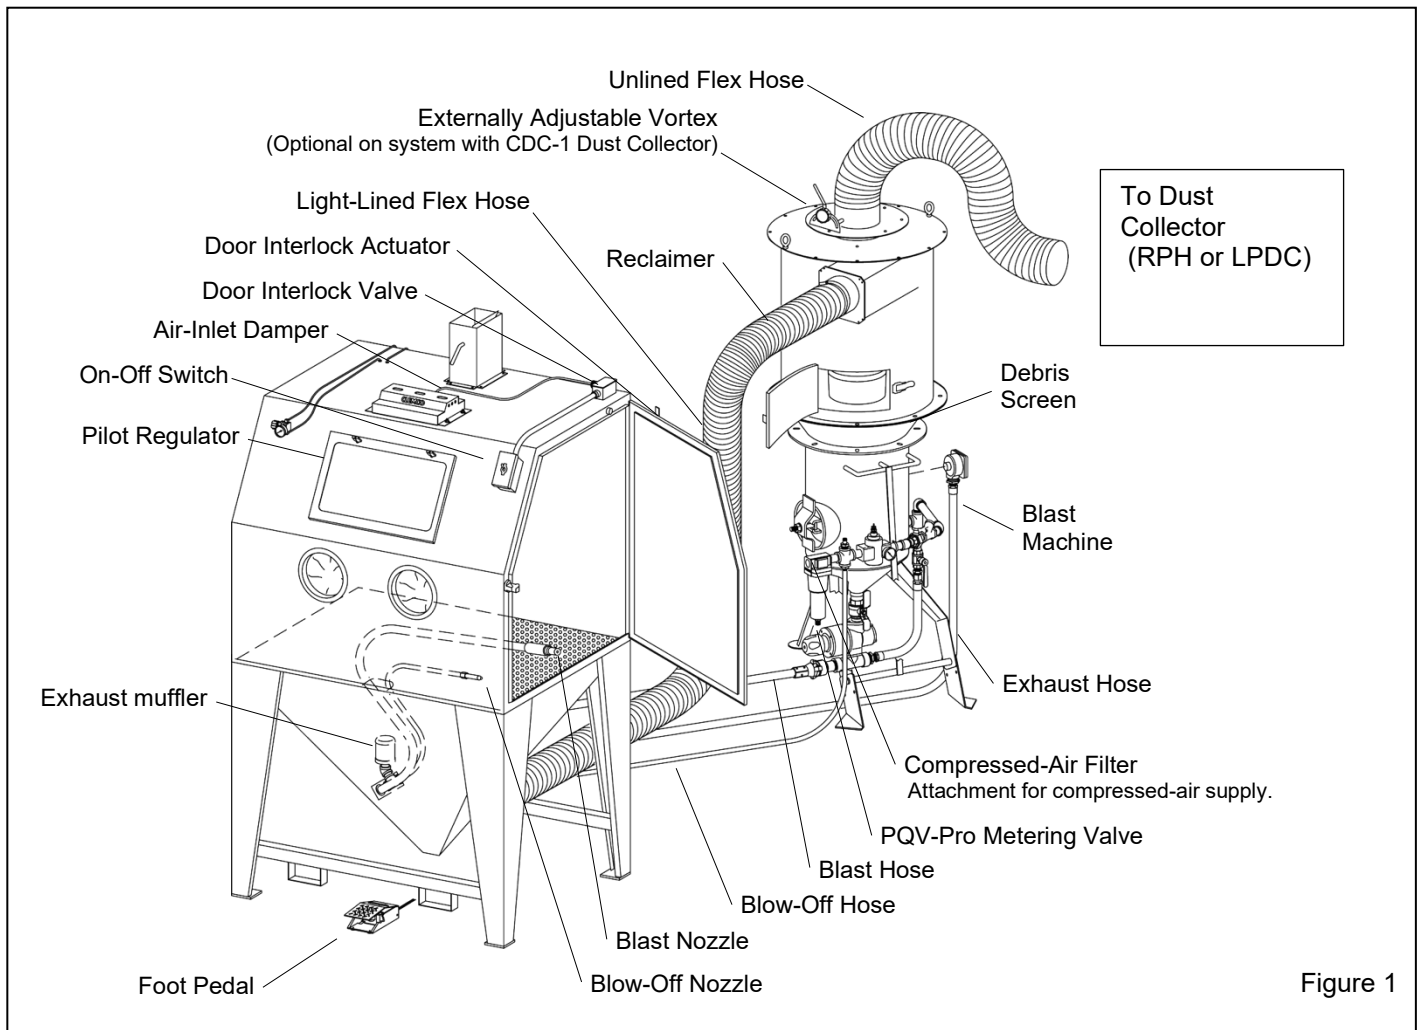

Figure 1
1.4.3 Refer to Figure 1. The illustration shows 900 cfm reclaimer mounted atop the blast machine; the smaller 600 reclaimer is mounted in the same manner.
2.1.1 Refer to Figure 1 for the general arrangement and Figure 5 for the control line schematic. Select a location